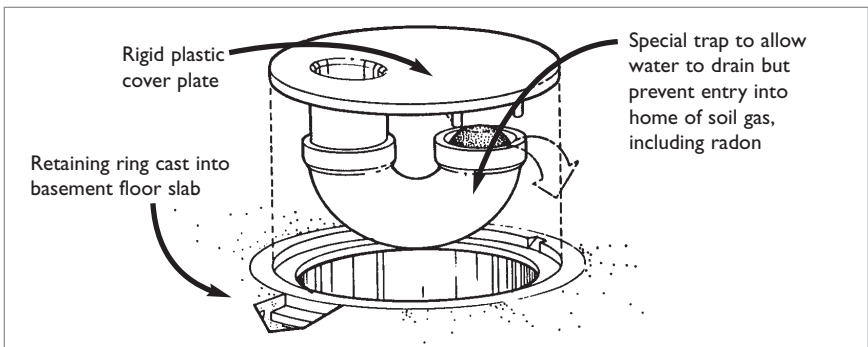

Figure 18: Trap for new floor drains
- Install special traps in floor drains that allow water to drain but prevent radon from entering the basement (*see* figure 18). These traps have the added benefit of keeping out molds, odours, insects and cold drafts. However, they are not a substitute for a sewer backup valve.